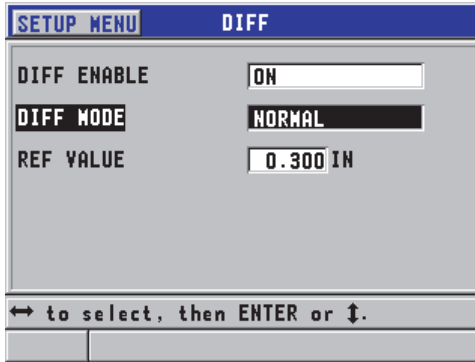

Figure 7-2 The DIFF screen
2. In the **DIFF** screen (see Figure 7-2 on page 139):